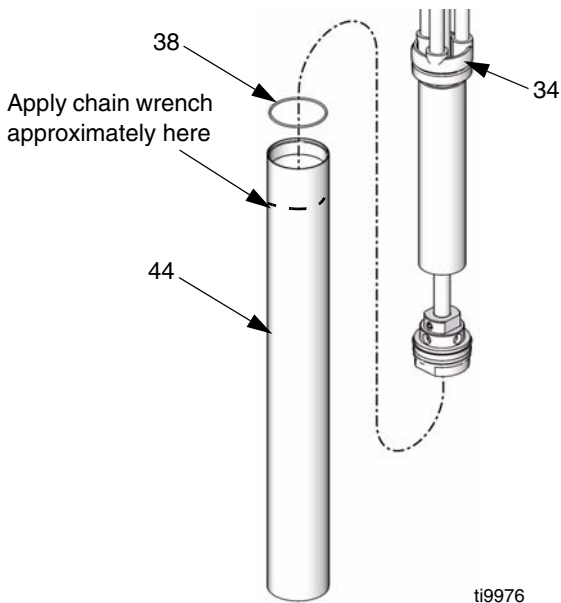

FIG. 17
5. Remove suction tube (44) from pump body (34). See FIG. 17.
6. Inspect o-ring (38) on pump body and suction tube for damage. See FIG. 17.